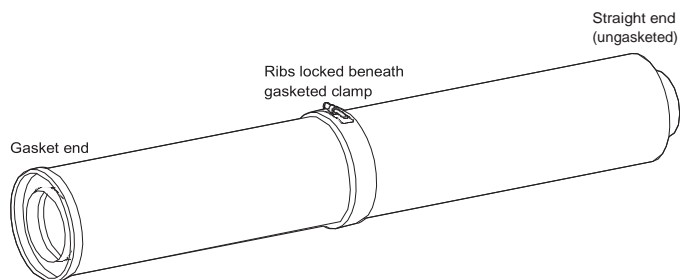

Fig. 11
- f) The last pipe section may be cut to fit the distance required to reach the water heater flue connections. If a flue condensate trap is specified, install the supplied tap with crimped end into the gasketed end of the elbow (horizontal flue installations) and clamp the condensate tee and elbow together (see Fig. 11). Install the crimped end of the elbow into the flue connection of the water heater. On vertical installations, install the crimped end of the condensate trap directly onto the water heater flue connection.